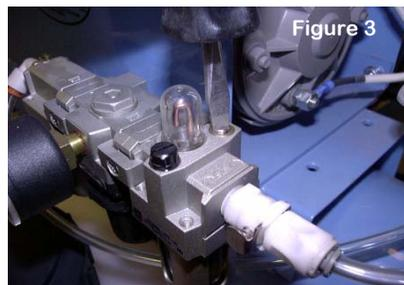

Figure 3
**Adjustment to the oil flow** can be made using the needle valve located adjacent to the oil fill plug. This is a small slotted metal valve, indicated in photo at the left (figure 3) by the arrow. To adjust, turn the screw clockwise until resistance is felt. Back the screw out one quarter of a turn. Now your oil flow is set.